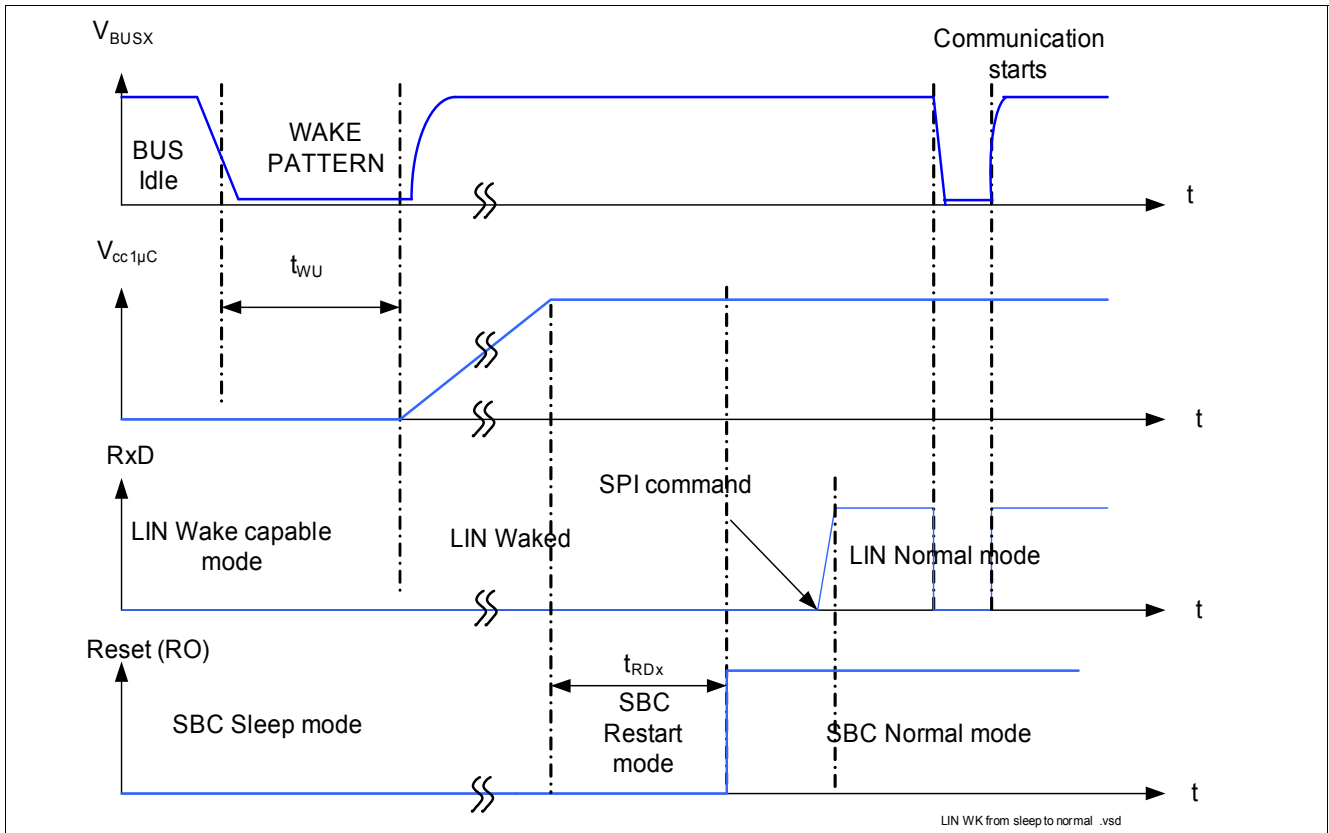

Figure 19 Timing during Transition from SBC Sleep to SBC Normal Mode
Wake-up is possible via a LIN message (filtering time  $t > t_{WK,bus}$ ), it automatically transfers the SBC into the SBC Restart Mode and from there to Normal Mode the corresponding RxD pins in set to LOW, see Figure 19. The microcontroller is able to detect the low signal on RxD and to read the wake source out of the "Wake Register Interrupt" register (000) via SPI. No Interrupt is generated when coming out of Sleep Mode. The  $\mu$ C can now switch the CAN transceiver into LIN Normal Mode via SPI to start communication.